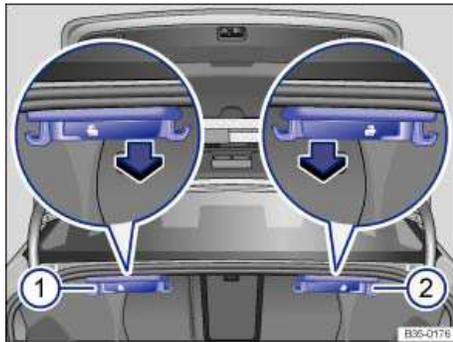

Fig. 101 In the luggage compartment: Release lever for the left 1 and right 2 sections of the rear seat backrest.
- Pull the remote release lever for the left ⇒ fig. 101 \(1\) or right (2) rear seat backrest in the direction of the arrow. The unlocked section of the rear seat folds forward automatically.